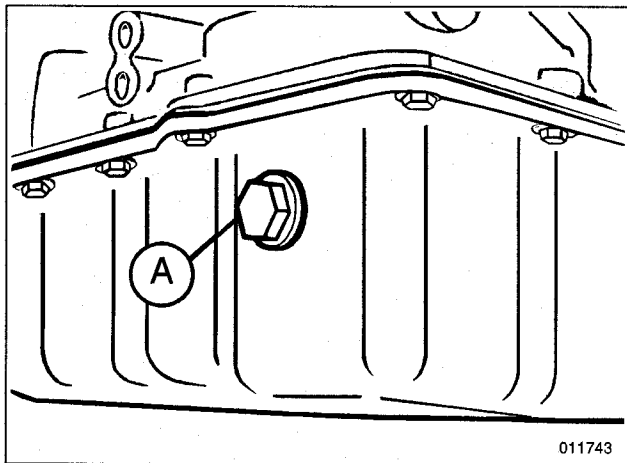
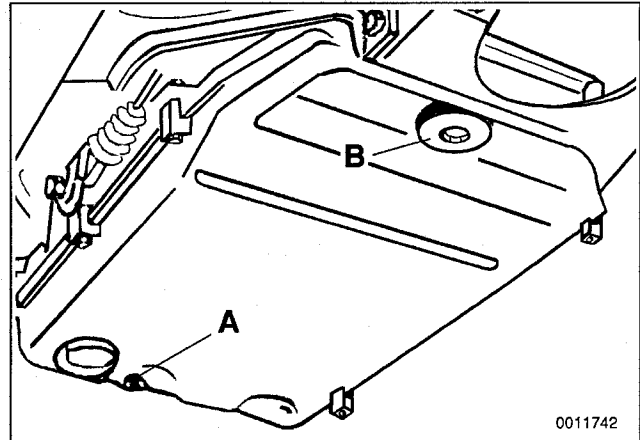
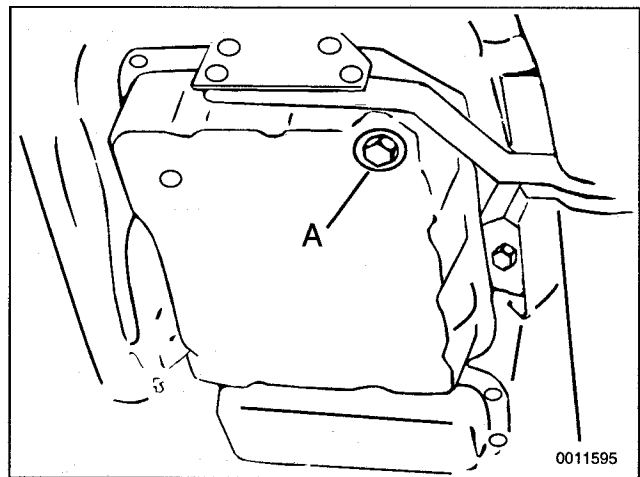

Fig. 1. ATF fill plug (A) on A4S 270 R/A4S 310R transmissions.
Fig. 2. ATF drain plug (A) and fill plug (B) on A5S 310Z transmission.
Fig. 3. ATF drain plug (A) on A4S 270 R/A4S 310R.
3. Remove ATF fill plug. Place transmission in neutral and restart engine. See Fig. 1 or Fig. 2.
1. Remove drain plug and drain fluid into container. See Fig. 3 or Fig. 2 given earlier.